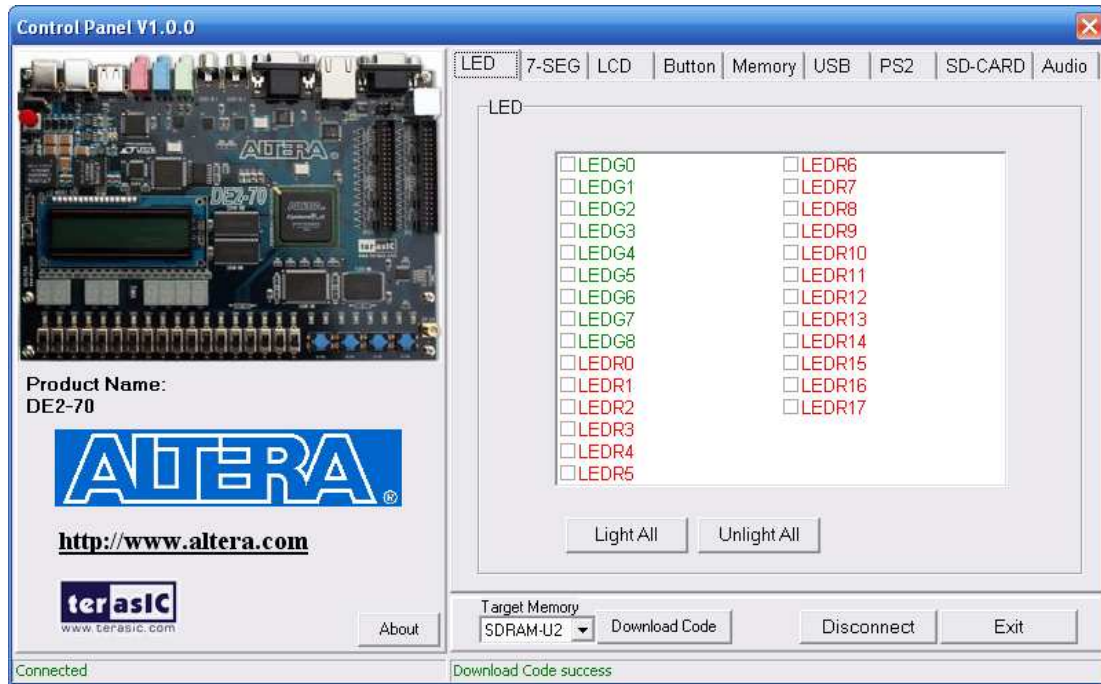

Figure 3.1. The DE2-70 Control Panel.
4. Start the executable *DE2\_70\_control\_panel.exe* on the host computer. The Control Panel user interface shown in Figure 3.1 will appear.